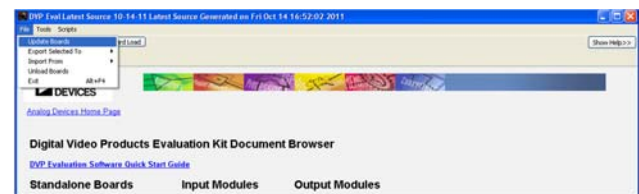

Figure 5. Update Board Files on the DVP Eval Software
4. Select **File > Update Boards** to combine the ADV7280A-M script files with the DVP Eval Software (see Figure 5).